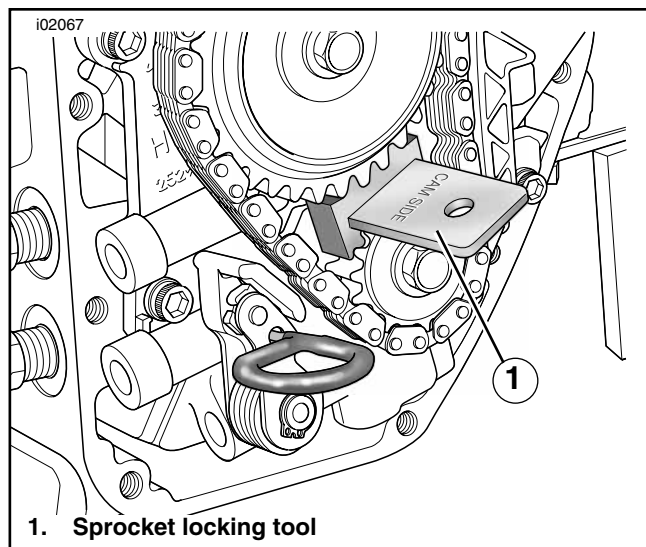

Figure 7. Crankshaft/Camshaft Sprocket Locking Tool (Part Number HD-42314)
- f. See Figure 7. Position CRANKSHAFT/CAMSHAFT SPROCKET LOCKING TOOL (HD-42314) between the crank and primary cam sprockets to prevent rotation. The handle of the tool is stamped "Crank" and "Cam" to ensure proper orientation.
- k. Remove the sprocket locking tool (1) and follow instructions in Service Manual for unloading the primary cam chain tensioner.